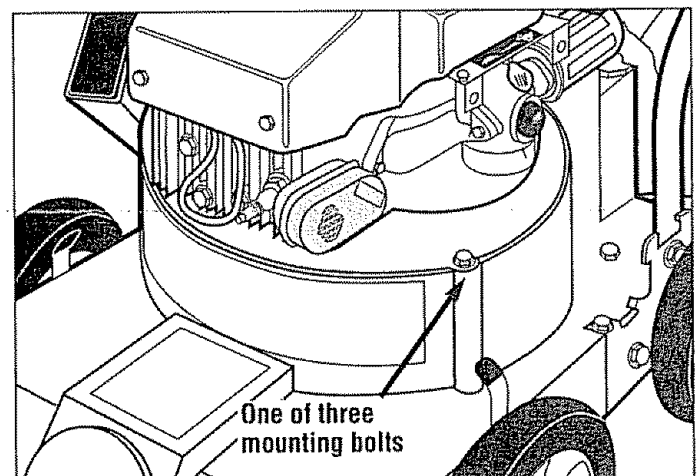

Figure 32: Engine mounting bolts.
4. With a 3/8" wrench, remove the three bolts that secure the engine mounting base to the deck. One bolt is shown in Figure 32. A second bolt is located at the rear of the machine above the left side of the blower opening. This second bolt also secures the short wire leading to the safety interlock. Remove the wire and the lockwasher along with this bolt. Also, disconnect the long safety interlock wire where it attaches to the engine above the engine muffler. A third bolt is located near the right front wheel.